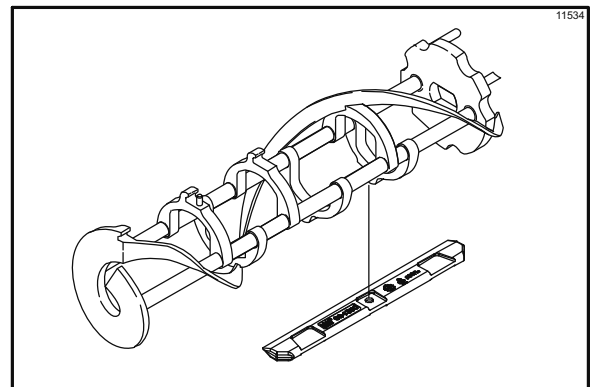

Figure 6-8
7. If the blades are in good condition, place the rear scraper blade over the rear holding pin on the beater. To prevent damage, make sure the hole on the scraper blade fits securely over the pin. (See Figure 6-8.)
8. Holding the rear blade on the beater, slide it into the freezing cylinder halfway. Install the front scraper blade over the front holding pin. (See Figure 6-8.)